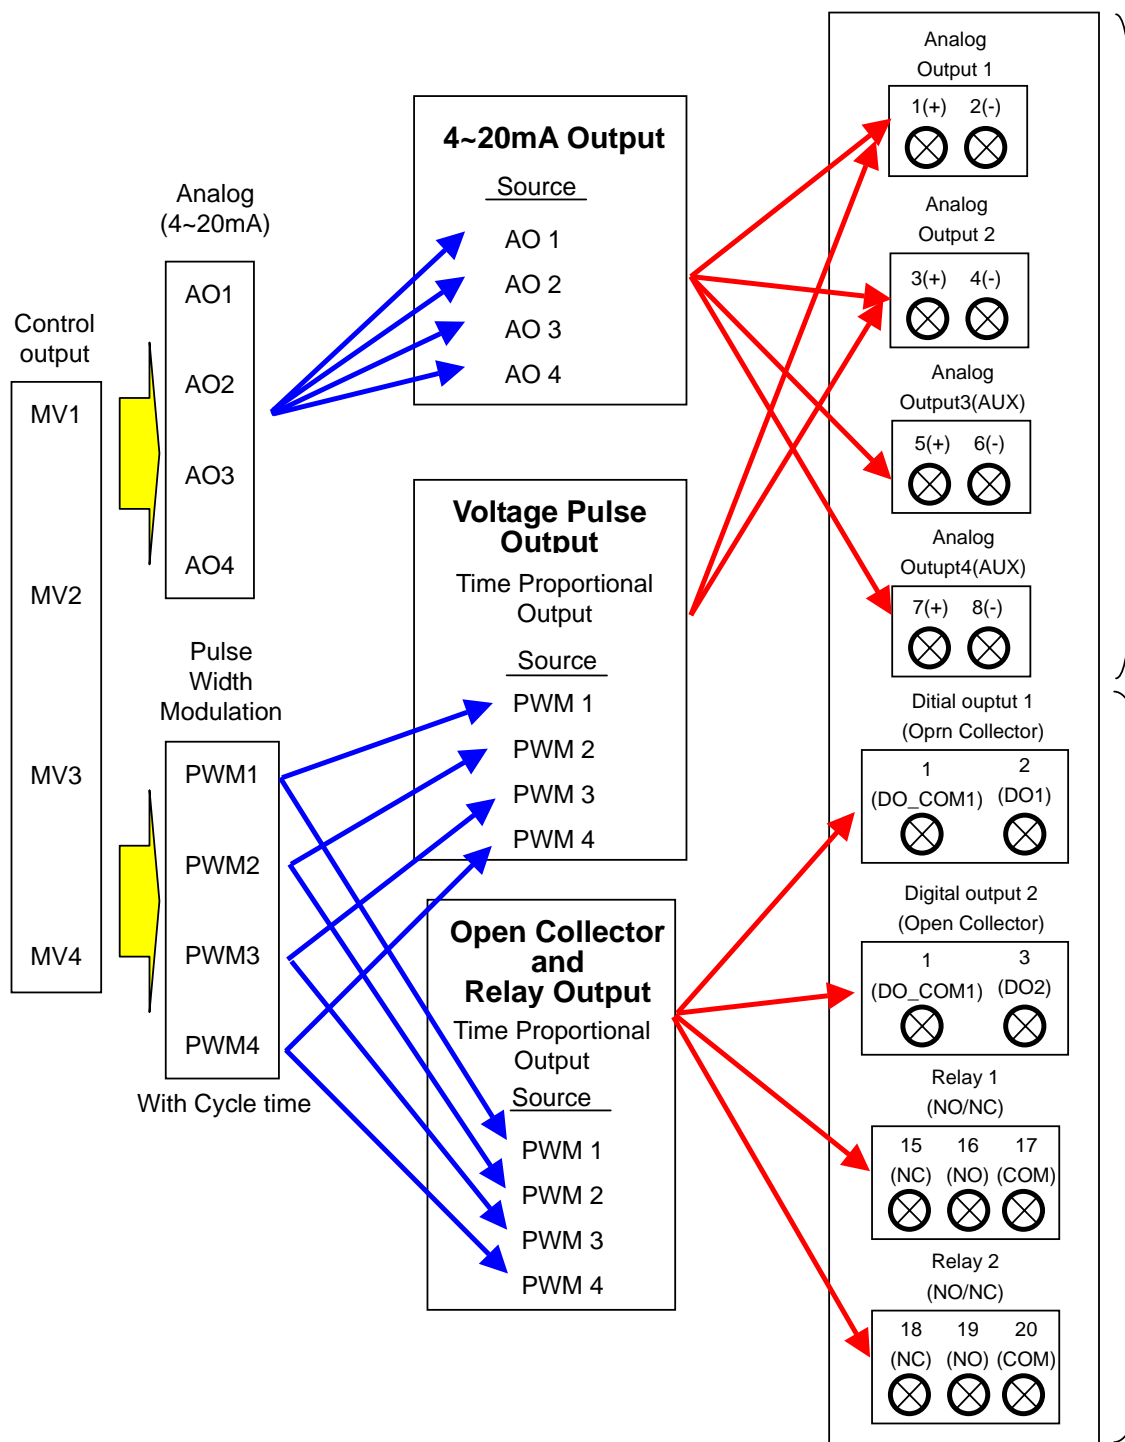
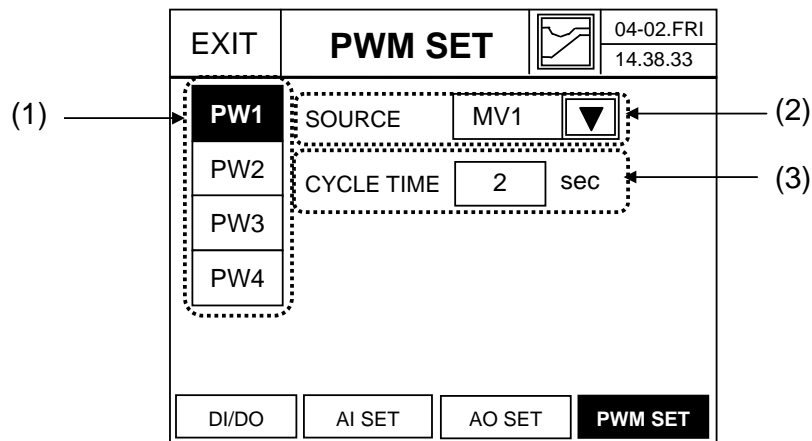

Fig. 3.4.1 Outputs Assigning block diagram
Fig. 3.4.2 PWM SET screen
IPC5000 has four Pulse outputs(PW1,PW2,PW3,PW4) and they are used for Relay, Open Collector and Voltage Pulse output. If the MV1, MV2, MV3 and MV4 are assigned, the Pulse is operated according to the assigned MV output value. Refer to figure 3.4.1 for understanding. Assigning MVs to Pulse output is set in Figure 3.4.2.
- PWM Selection : PWM means Pulse Width Modulation and It is four pulse outputs IPC5000 supports. The MV1, MV2, MV3 and MV4 of IPC5000 can be assigned to each pulse. Refer to figure 3.4.1 and 3.4.2 for the assigning.